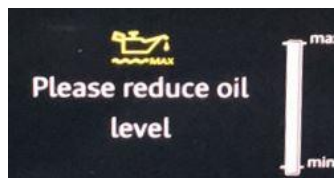

Figure 1. Message in instrument cluster.
- "Please reduce oil level" message is shown in cluster or MMI (Figure 1).